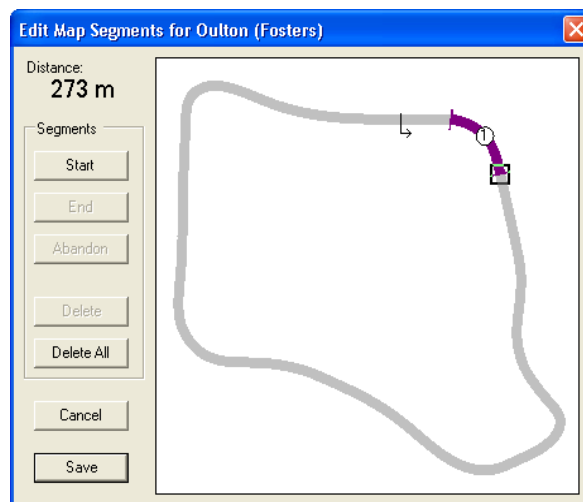

Figure 25 - Edit Map Segments Dialog (Segment Defined)
5. Mark the end point of the segment by clicking on the map and then clicking **End**. The portion of the map between the start and end points changes colour with small bars marking the extents of the segment (see Figure 25). Clicking **Abandon** before marking the end point of a segment allows the definition of the current segment to be cancelled.